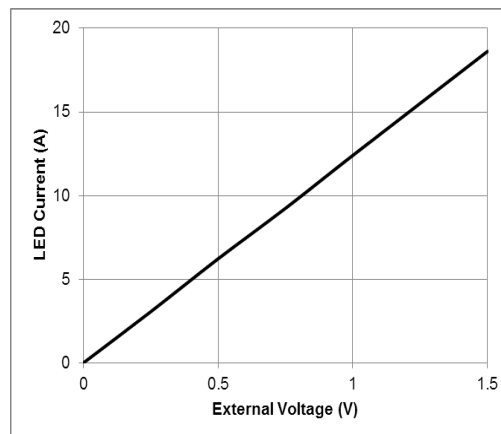

Figure 12: LED Current vs. External voltage
- To control the current externally, connect the positive of a 0-5 V signal to the Analog ADJ pin and the negative to the GND pin, using the signal cable. Figure 12 shows the relationship between the LED current and the external voltage.